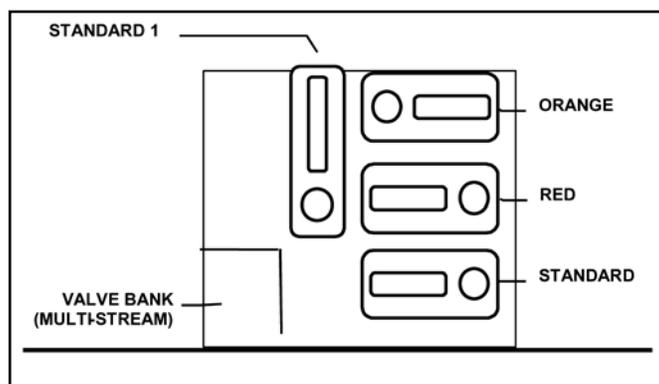

Figure 2-8. Sample Bottle Placement in Cabinet (for all methods; colors refer to reagent straw colors)
3. Plug in the two connectors to the back of the cabinet (6-position connector for heating bath; 9-position connector for pump) (see Figure 2-8).
3. Place Standard and Reagent bottles into reagent cabinet, as shown in Figure 2-8.